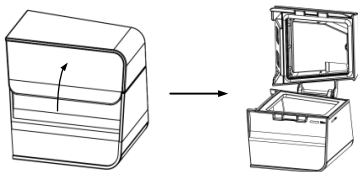
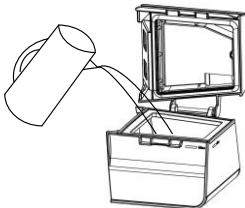

Fig. 14-2
Fig. 14-3
(1) Open the cap, as shown in Fig. 14-2, and fill the water chamber with approximately 360 ml of water, as shown in Fig. 14-3. Make sure that the water does not exceed the **maximum** water level line.